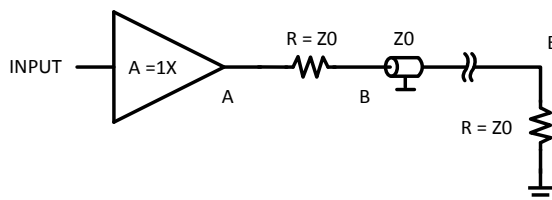

Figure 36.
- Use one buffer to drive one transmission line (see Figure 36)
Many applications, such as video, use a series resistance between the driver and the transmission line (see Figure 36). In this case the transmission line is terminated with the characteristic impedance at both ends of the line. See Figure 41 trace B. The voltage traveling through the transmission line is half the voltage seen at the output of the buffer, because the series resistor in combination with  $Z_0$  forms a two-to-one voltage divider. The result is a loss of 6dB. For video applications, amplifier gain is set to 2 in order to realize an overall gain of 1. Many operational amplifiers have a relatively flat frequency response when set to a gain of two compared to unity gain. In trace B it is seen that, if the voltage reaches the end of the transmission line, the line is perfectly matched and no reflections will occur. The end point voltage stays at half the output voltage of the opamp or buffer.